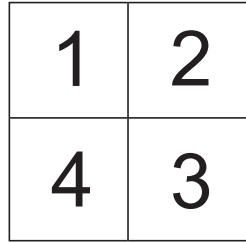

Figure 5. Zoom quadrants
5. Press the + or - buttons to select the quadrant you want to magnify (see Figure 5).